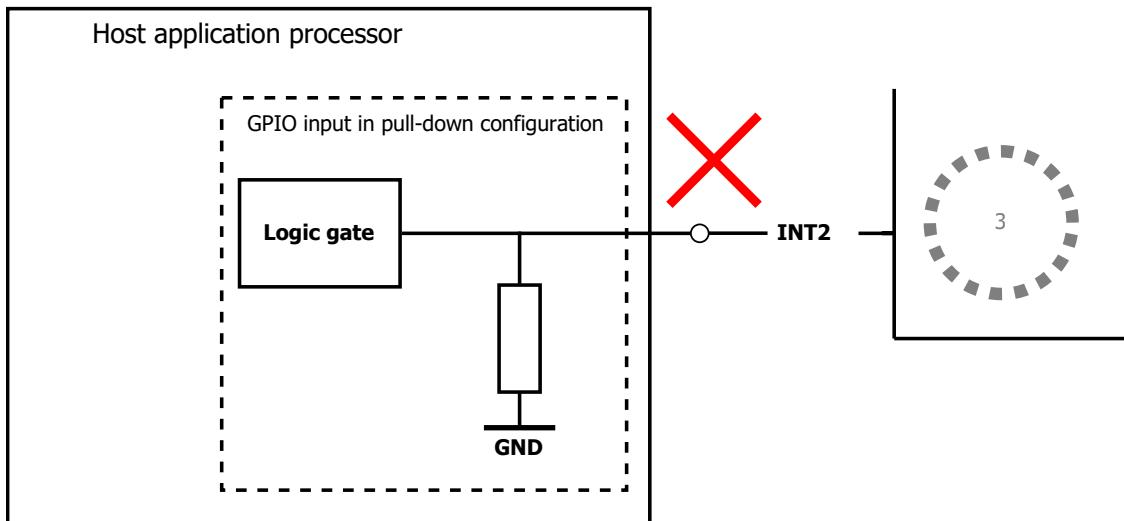

Figure 55: Connection that is not allowed in I²C and I3C before the pin 3 is configured to the output characteristics
- When the output characteristics of pin 3 is disabled (or not yet enabled), please do not connect pin 3 to a GPIO pin configured in the pull-down state, as shown in figure 55. Please consider this behavior especially during the startup of the device, since pin 3 is used in SPI Mode as CSB and therefore a connection to ground will trigger the SPI mode.